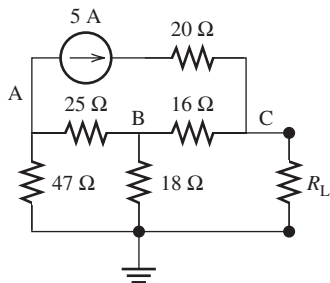

FIGURE P3.56 Circuit for Problem 3.56.
- 3.56 (A) Find the Thévenin equivalent circuit as seen by R_L in Figure P3.56.